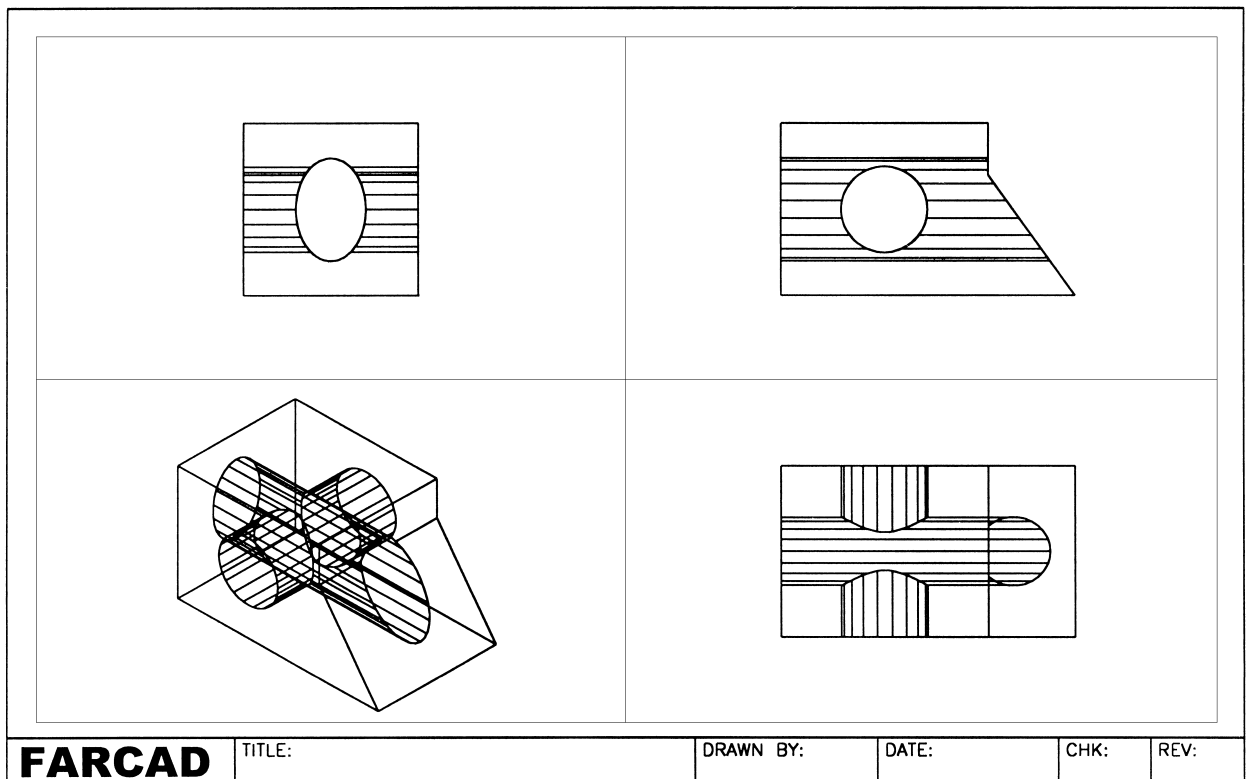

Figure 37.1 Composite model 4 – a slip block (plotted without hide).
- 1 Open the A3SOL template file with normal settings, display the Inquiry toolbar and refer to Fig. 37.1